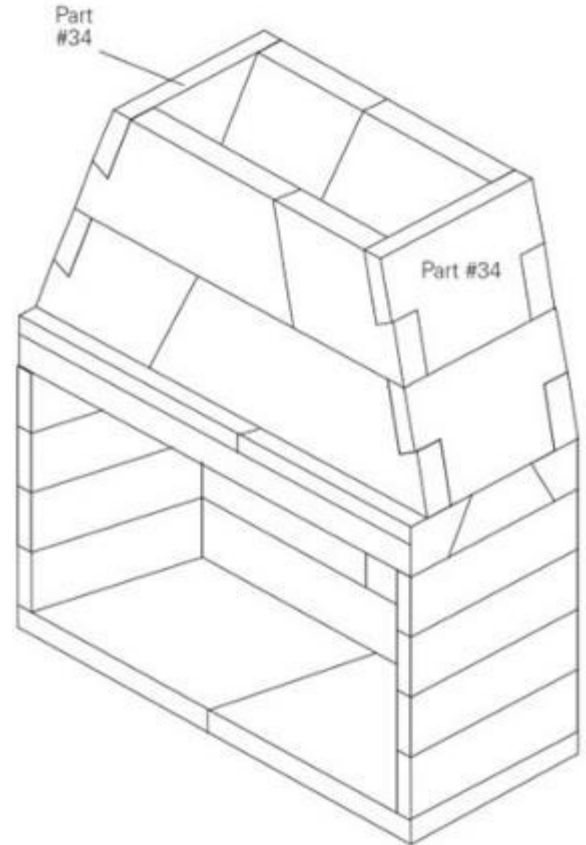

FIGURE 37
- Position the second tier of smoke dome's sloping sidewalls at each end of the smoke dome components. The sloping sidewalls fit in between the front and rear smoke dome components and also fit into the haunches at the ends of the front and rear smoke dome components. Earthcore adhesive all contact surfaces thoroughly. The smoke dome sloping sidewalls have a beveled bottom edge so that they will sit tight onto the flat top of the damper beam assembly. **(Figure 37)**